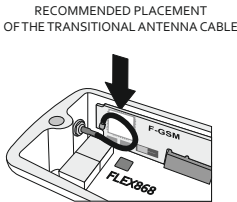

Fig.6. Placement of the antenna cable.
- plug the end of the antenna cable into the U.FL antenna socket on the card, paying attention to the correct laying of the antenna cable (Fig. 6)